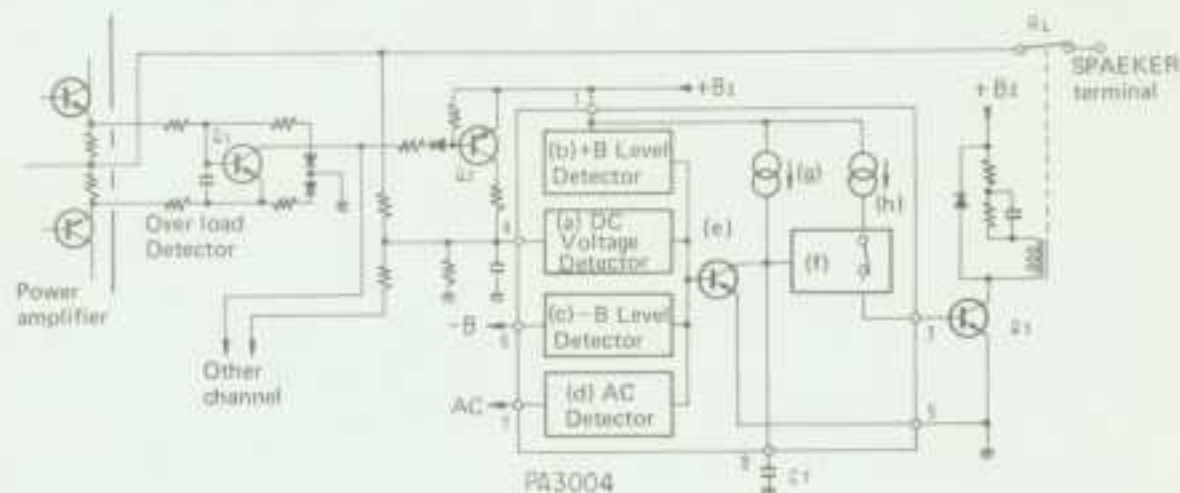

Fig. 10 Protection circuit
6.4 PROTECTION CIRCUIT (Fig. 10)